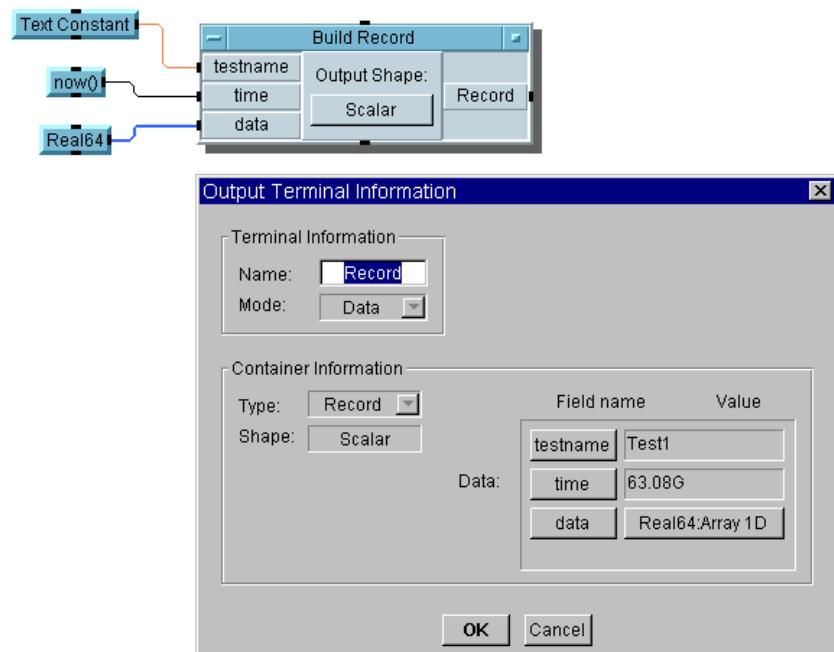

Figure 5-9. Output Terminal Information on a Record
7. Run the program. Double-click on the Record data output terminal to examine the record. It should look like Figure 5-9.